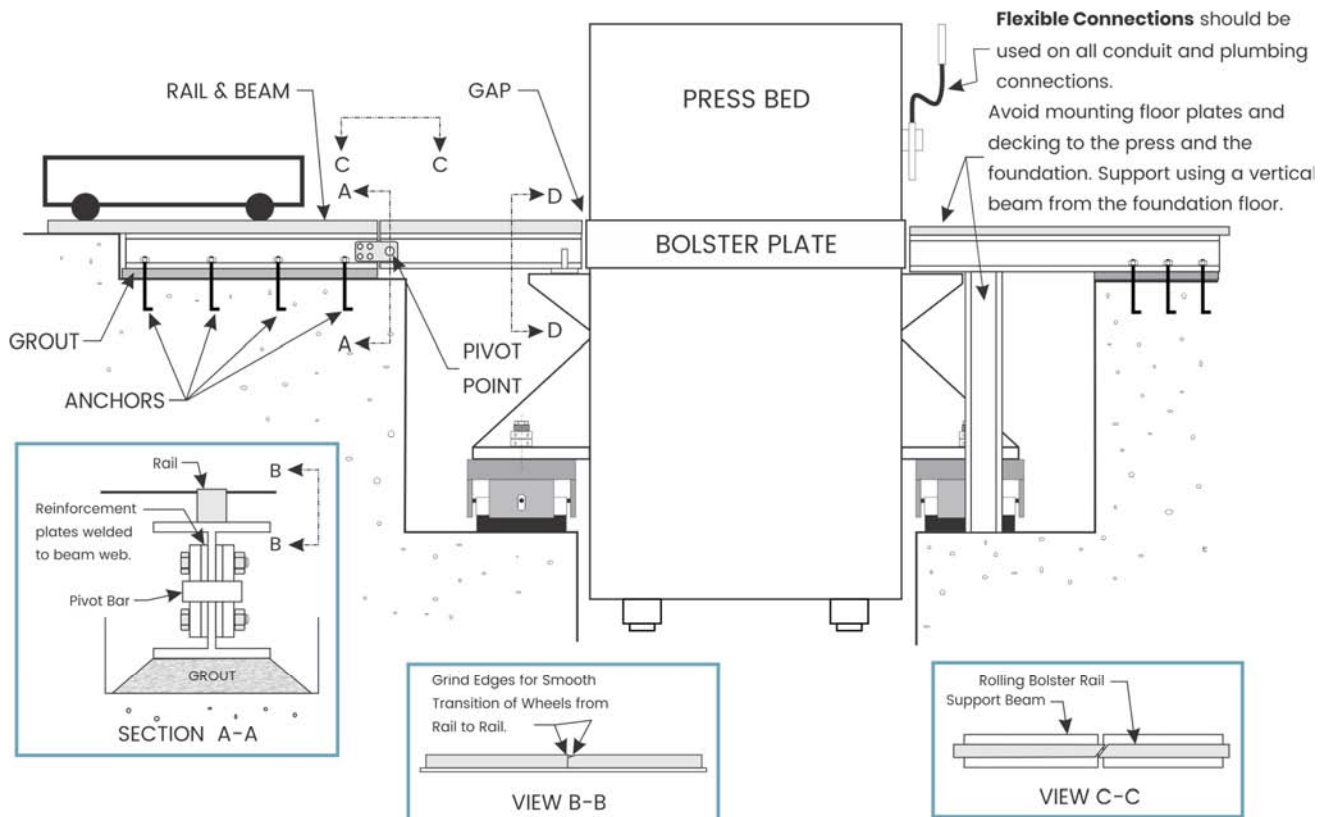

FIGURE 6
Note: Rolling bolster rails must *not* be rigidly fixed to the machine (see Figure 6 and Additional Considerations section) and should not be set until the final machine elevation is determined.
12. There should not be any solid connections between the machine and the foundation or building structure. Flexible connections are recommended for all plumbing and electrical conduit. Floor plates, walkways, railings, feeds, rolling bolster rails, etc. should *not* be attached to *both* the machine and the floor, foundation or building (See Figure 6). Hard connections will “short-circuit” isolation effectiveness.